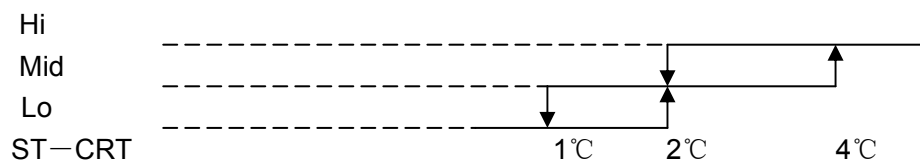

Figure 2 Heating automatic airflow
b. indoor fan motor's the automatic airflow speed control Indoor fan motor can operate by automatic, as shown in Figure 2: